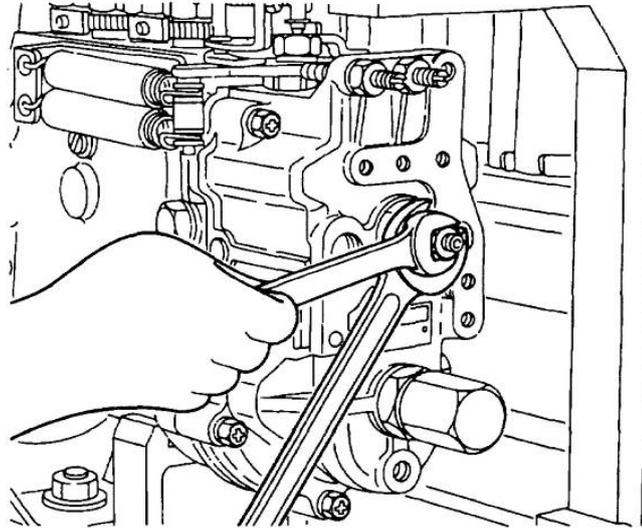

Figure 125 Adjustment of the Governor Shaft Spring
- o.** Position and lock the control lever in the idling position and set the pump speed to 630 rpm. Turn the adjusting nut on the governor shaft to bring the control rack to 6.6 mm (Figure 125). Torque the locknut to 10 to 14 N.m (7 to 10 lbf.ft), increase the pump speed to bring the control rack to 3.5 mm and check that the pump speed is 1100 ± 50 rpm.